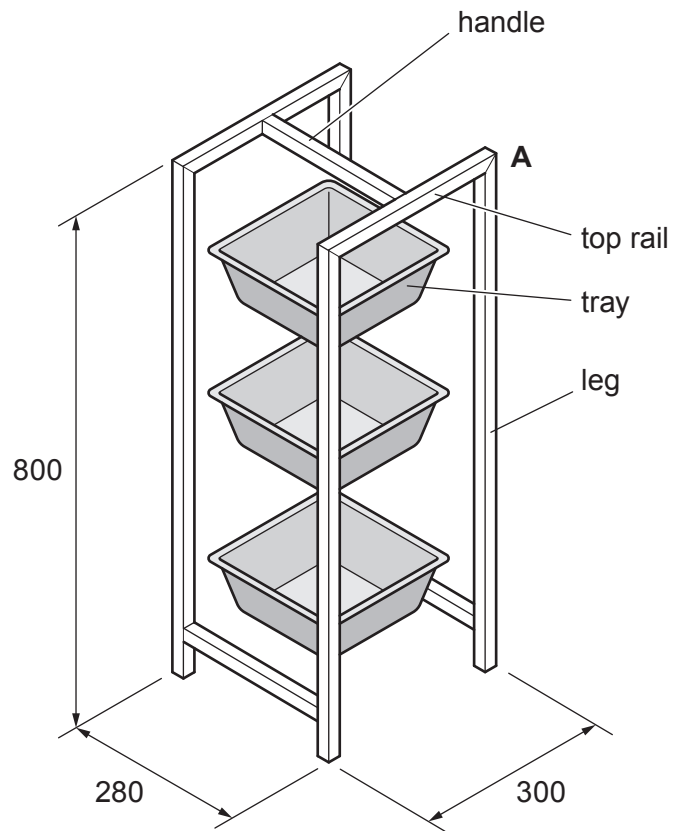

Fig. 12.1
- 12 Fig. 12.1 shows an incomplete design for a rack to store items of equipment used for cycle maintenance. Three trays will be supported inside the rack. The rack is made from 12 × 12 mild steel tube and the trays from high impact polystyrene (HIPS).